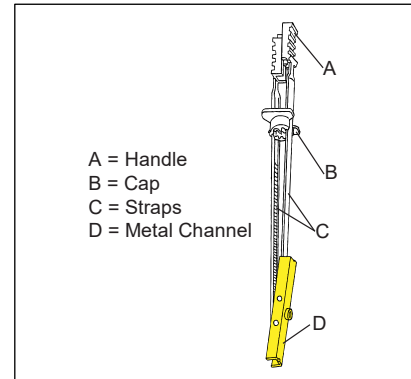

Figure 1 Toggle Bolt Components
This document provides general information for the 97-TOGBOLT5-A toggle bolt kit. Figure 1 shows the toggle bolt. Flat and lock washers are not shown.
- a. Hold the metal channel parallel to the straps (as pictured in Figure 1).